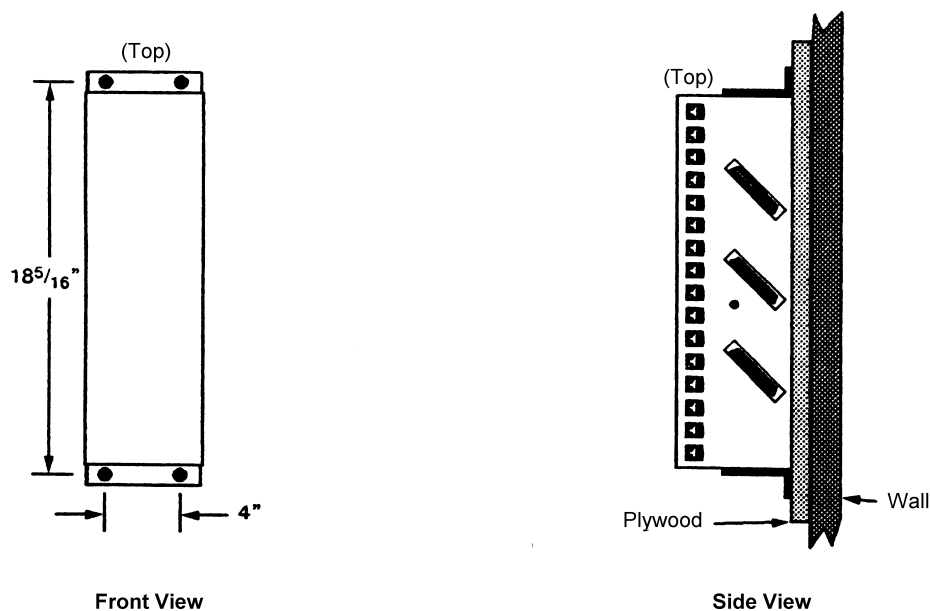

Figure 3
1. Attach the mounting brackets to the rack in the wall mounting position using the supplied mounting bracket screws, as shown in Figure 3.
3. Mark and pre-drill the mounting holes for the rack. Refer to Figure 3 for hole locations.